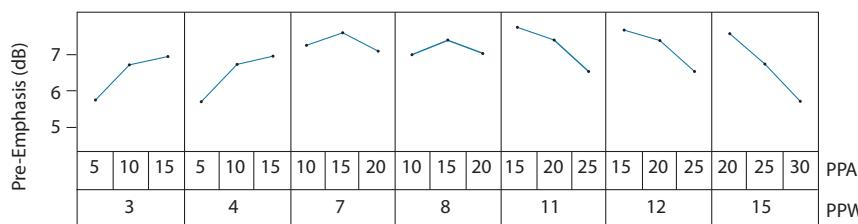
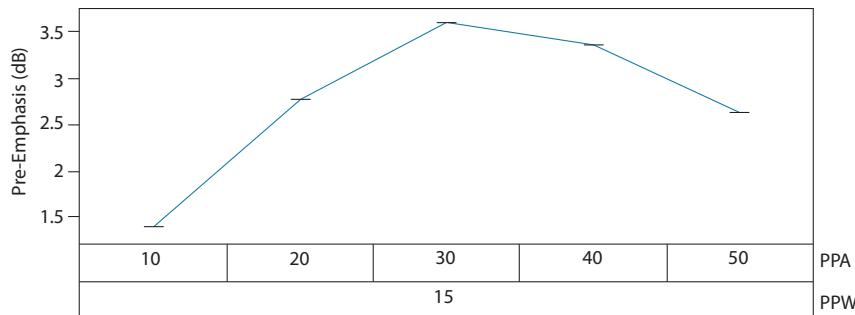

Figure 4-12: Pre-emphasis Settings for $VCCO_1 = 1.2V$ and $DS = 7$ (swing = $200mV_{pp}$)
Figure 4-19: Pre-emphasis Settings for $VCCO_1 = 2.5V$ and $DS = 35$ (swing = $800mV_{pp}$)
The only requirement of the Trace Driver pre-emphasis settings is to minimize ISI introduced by a lossy link and maximize the eye opening at the receiver. The pre-emphasis compensation of the GS3590 output channel is a two-step process. The first step is to use the settings from Figure 4-12 to Figure 4-19 that best match the insertion loss of the link in the application, while the second step is a fine optimization procedure.
1. Pre-emphasis Amplitude (PPA) Optimization: Set the PPA and PPW to the values obtained from the graph selected out of Figure 4-12 to Figure 4-19, and then measure the downstream jitter. While keeping PPW constant, increment the PPA by 'a'. If the jitter is lower after the first increment, continue to increment by 'a' until the jitter begins increasing or a setting of 50 is reached. If there was a setting which resulted in a lower jitter measurement than the initial setting, that is the Optimized Pre-emphasis Amplitude setting: $PPA_{Optimal}$, and the PPA optimization procedure is complete.
If incrementing the PPA or decrementing the PPA did not result in a setting with lower jitter, then the initial setting obtained from the graph selected out of Figure 4-12 to Figure 4-19 is the PPA optimized Pre-emphasis Amplitude setting: $PPA_{Optimal}$.
2. The second step is to set the PPA to the optimized setting $PPA_{Optimal}$ determined in step 1 and PPW to the values obtained from the graph selected out of Figure 4-12 to Figure 4-19, then measure the downstream jitter. While keeping PPA constant, increment the PPW by 'w'. If the jitter is lower after the first increment, continue to increment by 'w' until the jitter begins increasing or a setting of 15 is reached. If there was a setting which resulted in a lower jitter measurement than the initial setting, that is the Optimized Pre-emphasis Width setting: $PPW_{Optimal}$, and the optimization procedure is complete.
If incrementing the PPW or decrementing the PPW did not result in a setting with lower jitter, then the initial setting value obtained from the graph selected out of Figure 4-12 to Figure 4-19 is the optimized Pre-emphasis Width setting: $PPW_{Optimal}$.